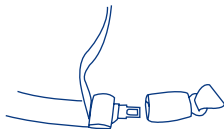

Fig. 42-1
- A lap/shoulder combination belt with a locking buckle is tightened by pulling upward on the shoulder portion of the seat belt while pushing down hard on the Safety Seat or Base. If you experience difficulty tightening the seat belt, unbuckle the seat belt, tighten the seat belt a small amount and re-buckle the seat belt. Repeat this procedure until the seat belt is very tight around the Safety Seat. (Fig. 42-1)